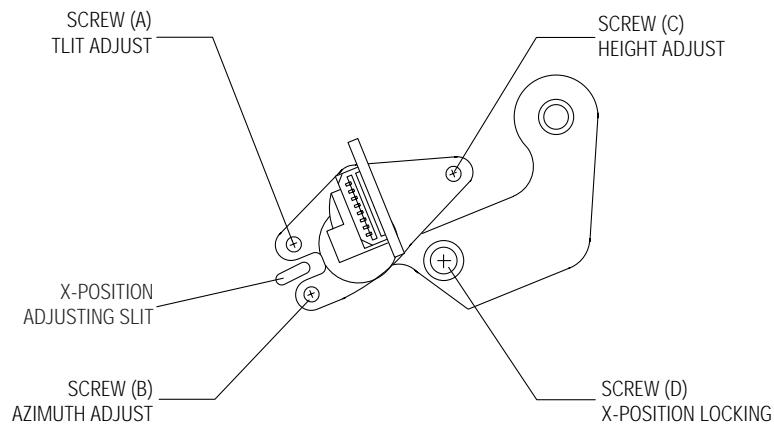

Fig. 6-5 Location of ACE Head Adjustment Screw
(Refer to Fig. 6-5 and 6-6)
- 3) Adjust screw (B) to achieve maximum audio level. (See Fig. 6-5)